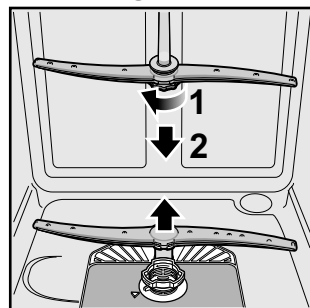

Figure 12
- Unscrew the spray arms and inspect as shown in **Figure 12**.